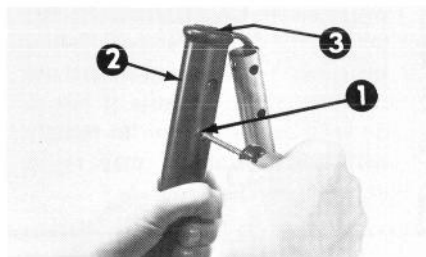

Figure 2
3. Remove the handle screws and plastic handle nuts from the center handle grip (Fig. 2).